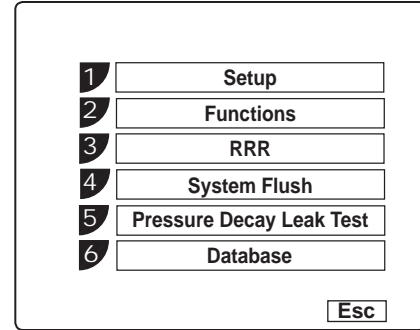

Figure 12
13. Refer to Figure 12 and select SYSTEM FLUSH from the main menu. Press **OK**.